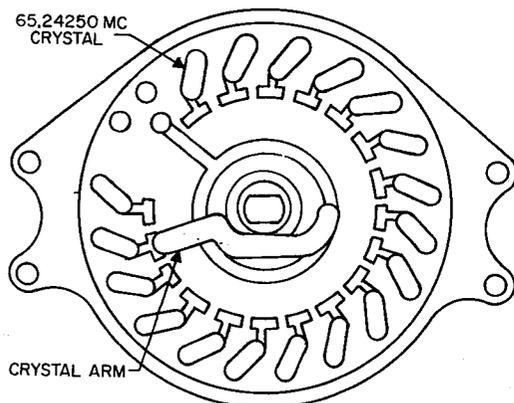

Figure 5-6. VHF Oscillator Switch
f. With the 618F-1A/1B set at 118.00 mc, loosen the setscrews on collar (H8) of bevel gear (MP31), and adjust the vhf oscillator crystal switch so that the rotor arm on the visible side of the switch is selecting the lowest value crystal (65.2425 mc). (See figure 5-6.) Adjust the bevel gear axially for good mesh, and tighten the setscrews so that they bear against a solid part of the gear hub. Turn crystal switch through entire range (cw and ccw), and check that contact is made in every position.
c. Check that the vhf oscillator switch (S5), rotor is selecting the 65.24250-mc crystal (64.74250-mc crystal for the 618F-1D). Refer to figure 5-6. If the rotor arm is not centered on the correct pad, rotate gear MP26 (see figure 6-2). Approach the final setting while rotating the gear (MP26) clockwise as viewed from the frequency indicating dials end of the 618F-1C/1D.